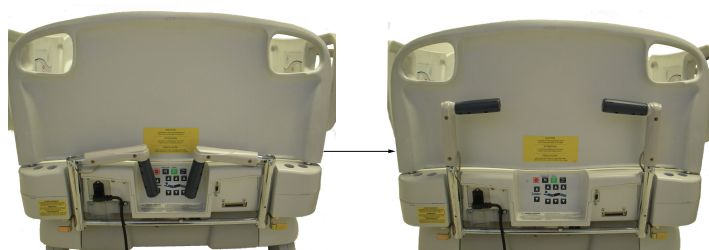

Figure 8: Unfolding the Zoom motorized drive handles
3. Unfold the drive handles from the head end of the product (Figure 8 on page 27). Make sure that the drive handles lock into the upright position.